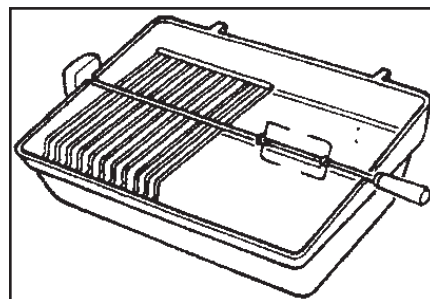

Fig. 9
2. The rotisserie can be used with a cooking grid if space allows. Place the meat closest to the handle on the spit to make handling easier. (Fig. 9)